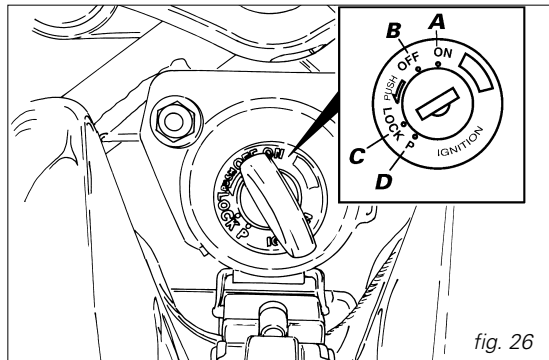

fig. 26
1) Move the ignition key to **ON** (fig. 26). Make sure both the green light **N** and the red light  on the instrument panel come on.